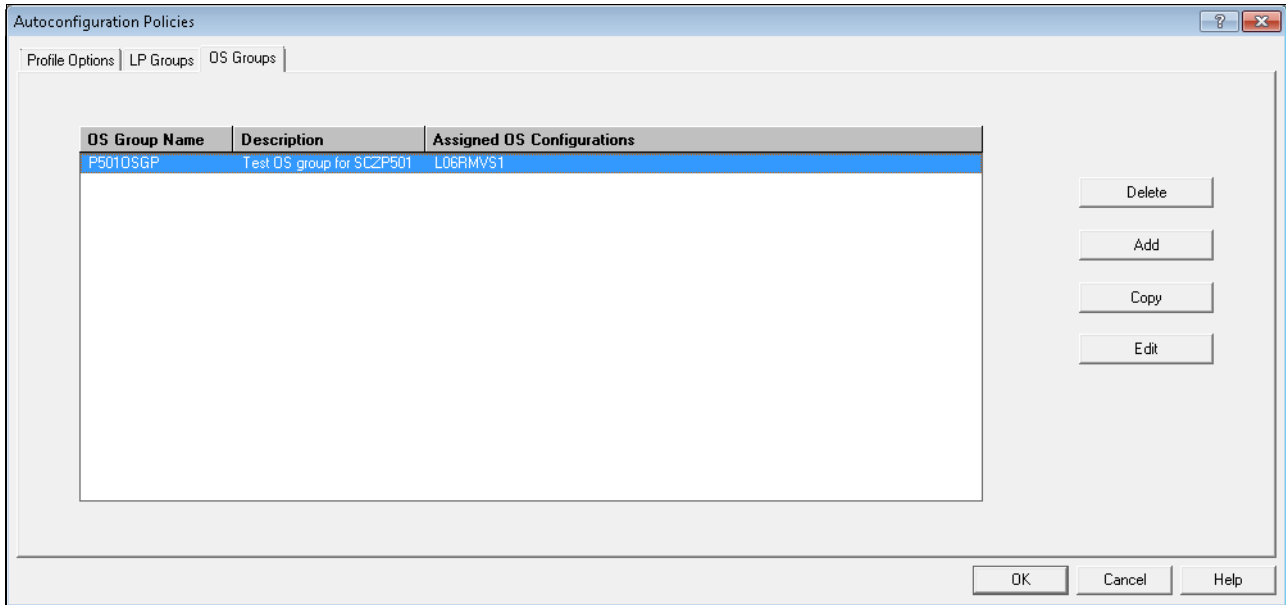

Figure 4-47 HCM - OS Groups: OS configuration added
5. In the example, add only the L06RMVS1 OS configuration and click **OK** (Figure 4-47).